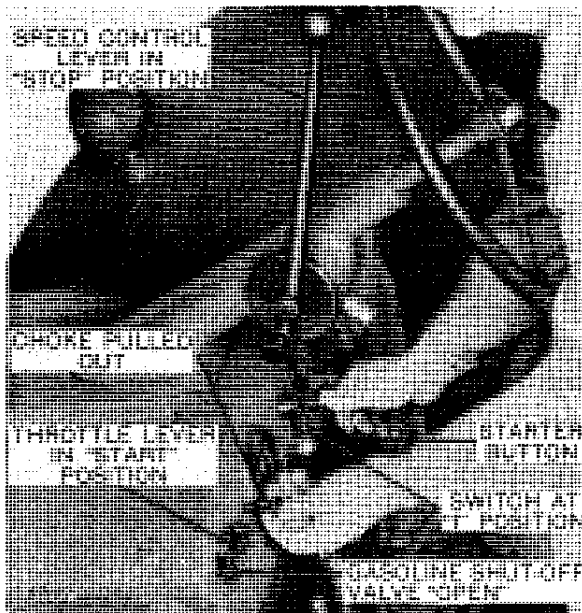

Figure 10-10-1—Starting the Cranking Engine
- (1) Set gear shift lever in neutral and pull the diesel engine clutch lever to the disengaged position.
- (2) In cold weather disengage the Powr-Trol pump to relieve drag on the engine caused by cold oil.
- (3) Make sure that the fuel shut-off valve, located underneath the main fuel tank is open.
- (4) See that the diesel engine speed control lever (Figure 10-10-1) is in the **stopped** position (all the way to the rear) with the stop button pulled out. The lever **must** be in this position.
- (1) Open the gasoline shut-off valve two or three turns by turning the handle counter-clockwise (Figure 10-10-1).